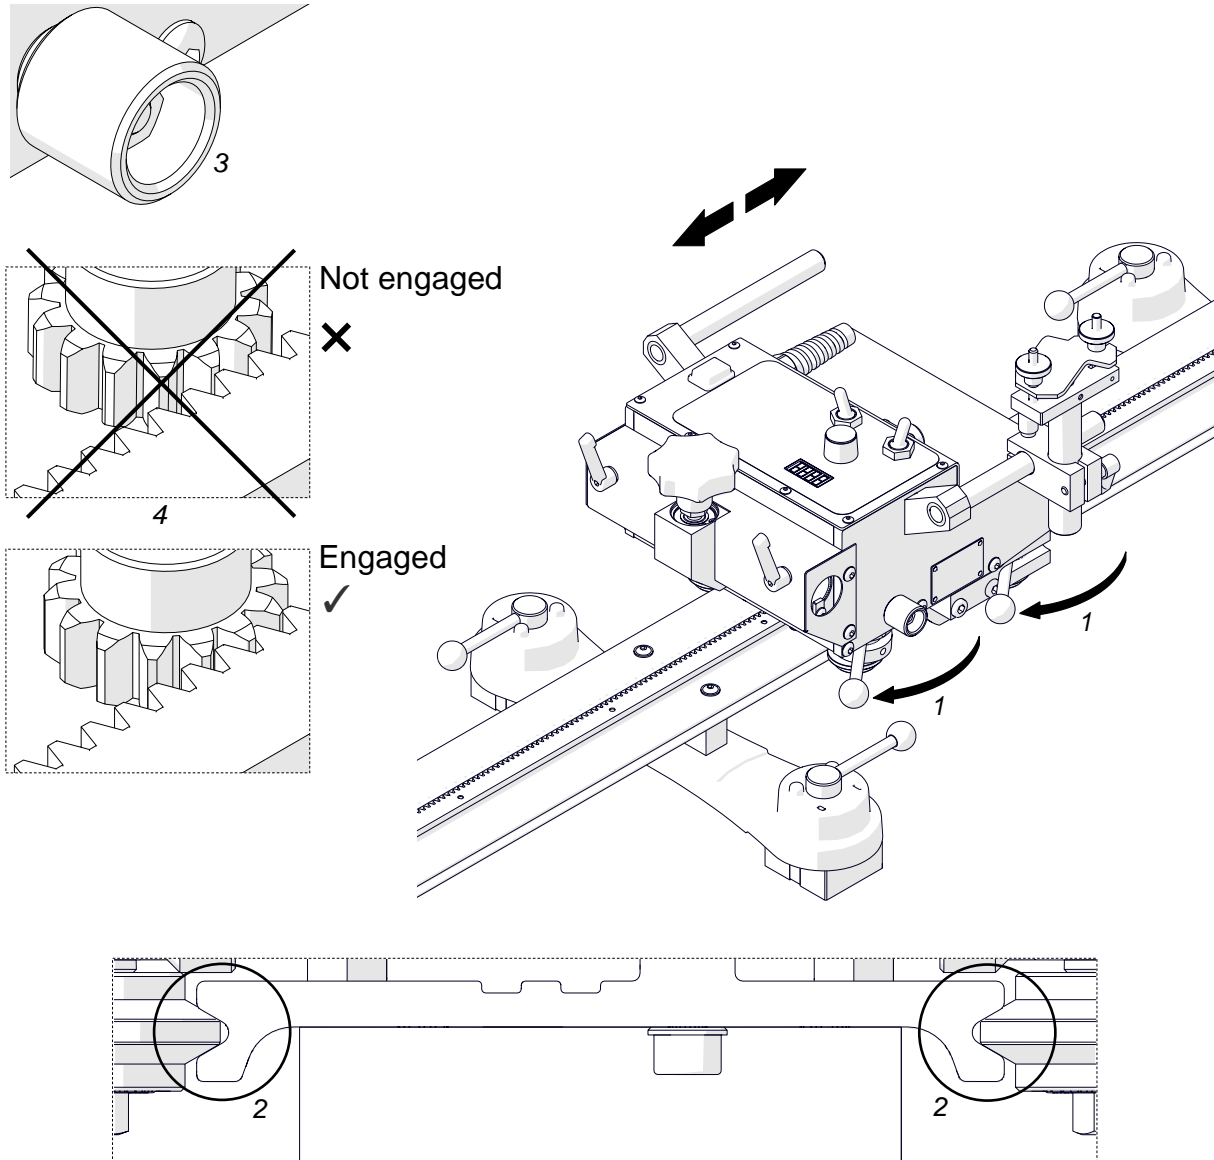

Fig. 7. Engaging the carriage with the track
Set the levers to ON (1, Fig. 7) to put the rollers into the grooves (2). Then, while moving the carriage slightly left or right, tighten the knob (3) to engage the gear of the carriage with the rack of the rail (4). However, do not tighten the knob with too much force. Keep some backlash between the gear and rack.